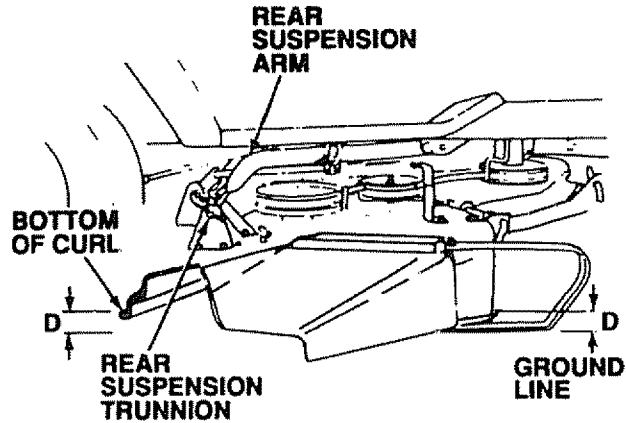

FIGURE 36
- a. To obtain the best cutting results, your mower housing should be adjusted so the front and rear flange distance "D" (Fig. 36) is 1/2" (1.27 cm) lower in front when the mower is positioned in the highest cutting position.